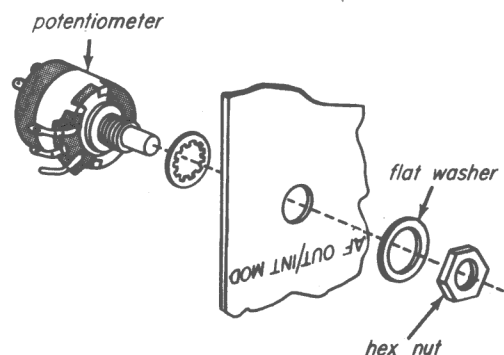

Fig. 20-8
Step 6. Slide the protective wrapping down to uncover the two holes marked RF ATTEN and AF OUT/INT MOD. Mount the 500 k-ohm potentiometer ( $R_3$ ), and switch in the hole marked AF OUT/INT MOD. The potentiometer can be identified by the markings on the cover. However, it is a good idea to verify the markings by measuring the resistance of the control with your meter. Use a lock washer next to the control; on the face of the front panel use a flat washer and hex nut, as shown in Fig. 20-8. Before tightening the nut,